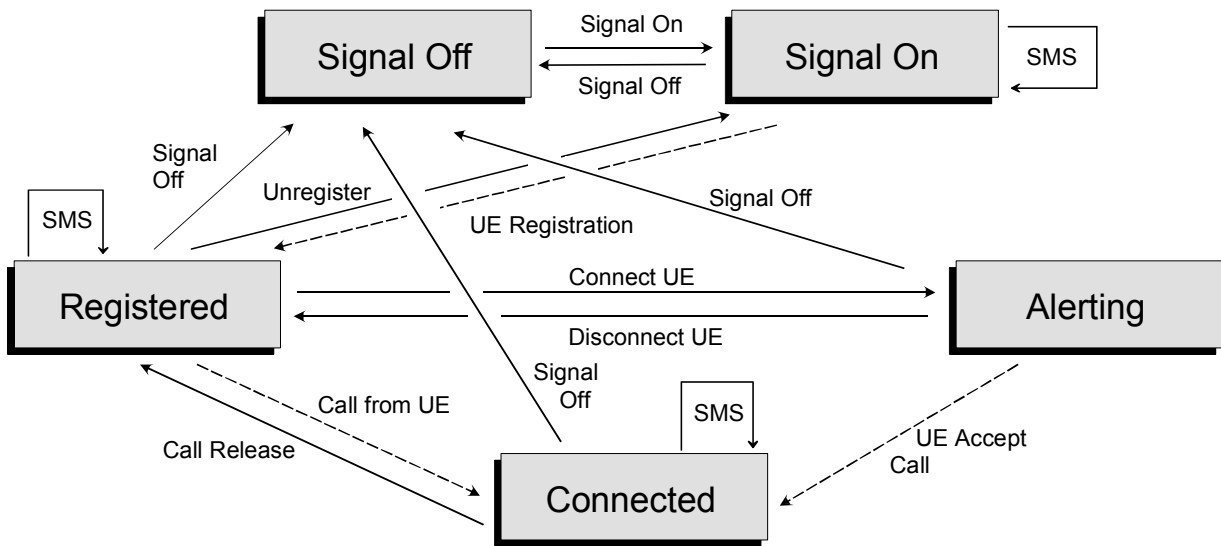

Fig. 4-84 Signalling states of the CMU: Connection with Alerting
A number of control commands which can be initiated both by the CMU (*Call to UE, UE Terminating Call*) and by the UE (*Call from UE, UE Originated Call*) switch between these states (the dashed lines in Fig. 4-84 denote processes initiated by the UE).
The tab *Connection (Signal Off)* is opened when the function group *WCDMA UE Signalling (3GPP/FDD)* is selected, or if the WCDMA signal is switched off (*Signal Off* softkey) while the system is in another signalling state. It is replaced by the *Connection (Signal On)* tab after the WCDMA signal (*BS Signal*) of the CMU is switched on so that the CMU emulates a UTRAN cell (softkey *Signal On*, Fig. 4-84).
The tab Connection (*Signal On*) is opened after the WCDMA signal (*BS Signal*) of the CMU is switched on so that the CMU emulates a UTRAN cell (softkey *Signal On* in the tab Connection (*Signal On*)) or if the CMU forces a previously registered UE to initiate a new registration (softkey *Unregister* in the tab Connection (*Registered*)). It is replaced by the *Connection (Registered)* tab after the UE initiates a registration (see Fig. 4-84).
- Establishing a connection to the UE (*Connect UE (CS)* -> state *Alerting*)
The tab Connection (*Registered*) is opened when a successful RRC connection (in which case a registration/location update is considered as being already performed) is released (*Disconnect UE (CS)* softkey in the *Alerting* or in the *Connected* state, UE connection release, loss of radio link) or when a registration is initiated by the UE. It is replaced by the *Connection (Alerting)* tab if the CMU initiates a connection to the UE (softkey *Connect UE (CS)*), or by the *Connection (Connected)* tab if the UE initiates a connection to the CMU, see Fig. 4-84 on page 4.195.
- *Disconnect UE (CS)* while keeping the WCDMA signal (*BS Signal*) switched on (→ *Registered*)
The tab *Connection (Alerting)* is opened while the UE is ringing during a connection setup (*Connect UE (CS)* softkey in the *Signal On* or in the *Registered* state). It is replaced by the *Connection (Connected)* tab when the UE accepts the connection (is picked up), or by the *Connection (Registered)* tab if the connection is released (*Disconnect UE (CS)* softkey, UE connection release), see Fig. 4-84.